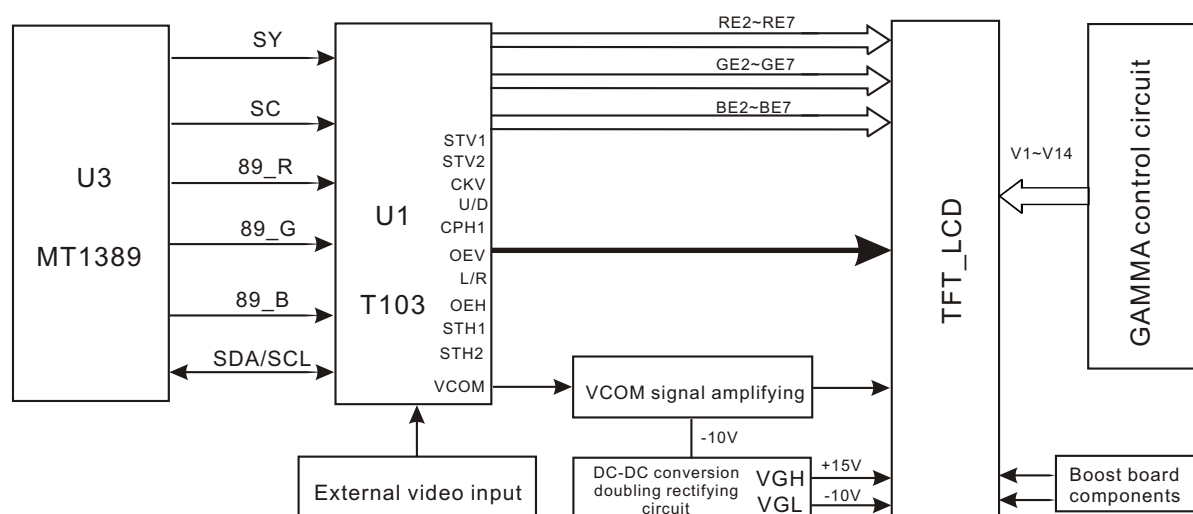

Figure 3.2.9.1 Video encoding and LCD—TFT drive circuit block circuit
1. Video encoding and LCD—TFT drive circuit block diagram is shown in the figure 3.2.9.1: